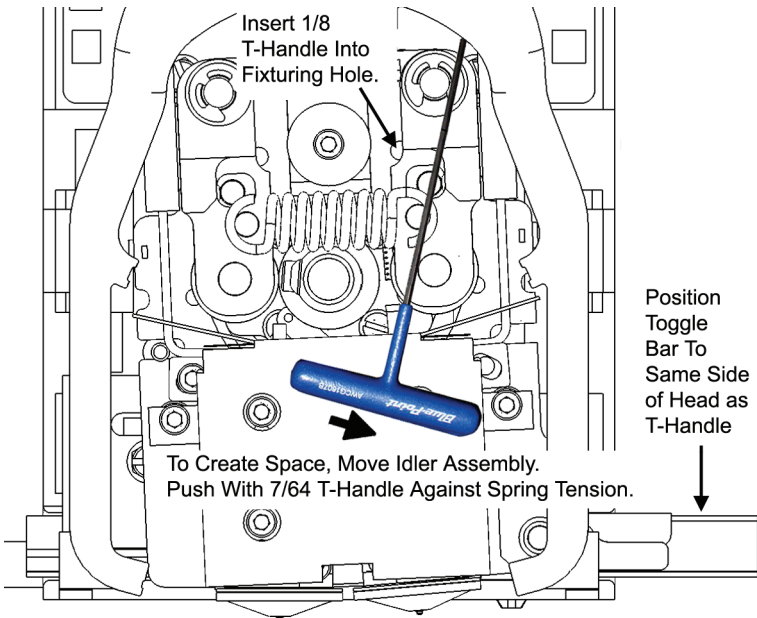

Figure 28: Create Access Space for Cleaning - Model Tip Side
- B. To facilitate access to areas that may need to be cleaned, move the material idler wheels out of the way (there is one idler wheel for support material and one for model material - Figure 28 illustrates the model side):
2. Move the material idler wheel out of the way on the side that is clogged. Use a 7/64 and 1/8 T-Handle as illustrated in Figure 28 (model side shown).